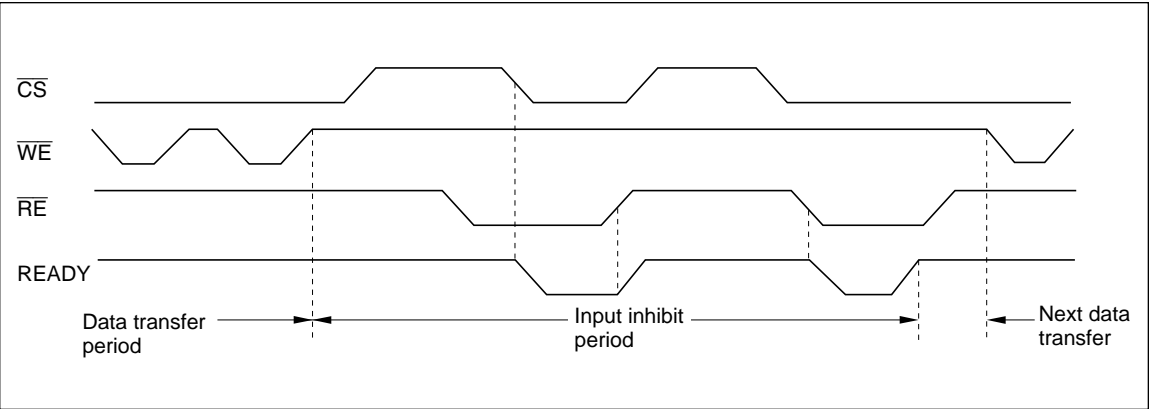

Figure 17 READY Output Timing (When It Is Made Available by $\overline{\text{CS}}$ and $\overline{\text{RE}}$)
- b. READY is mode available by $\overline{\text{CS}}$ and $\overline{\text{RE}}$ (figure 17).